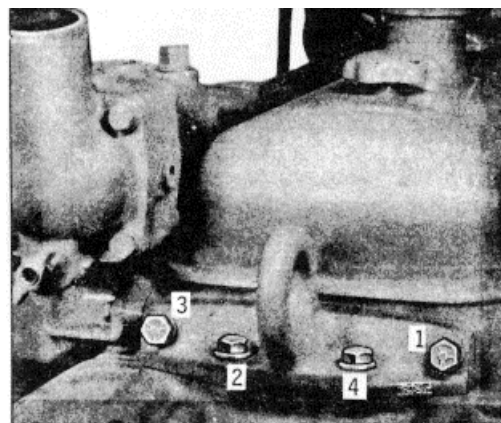

Fig. 2
- (4) Install the bolts finger tight, draw them down snug and then tighten to the specified torque. Draw the bolts down in the proper sequence (Fig.2) for each of these steps to draw the mating parts together evenly, thus providing a good seal. Tighten the bolts to 55-60 ft/lbs.(75-81 N. m) torque.
- (5) Install the rear lifter bracket to the cylinder head and flywheel housing in a similar manner.